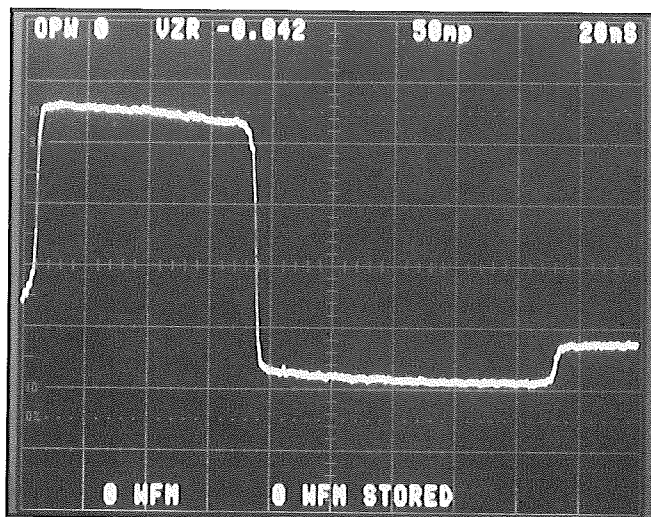

Fig. 2-3. Optical pulse display.
12. Center the trace on the graticule with the 7S12 DC Offset control. The display should resemble Figure 2-3.